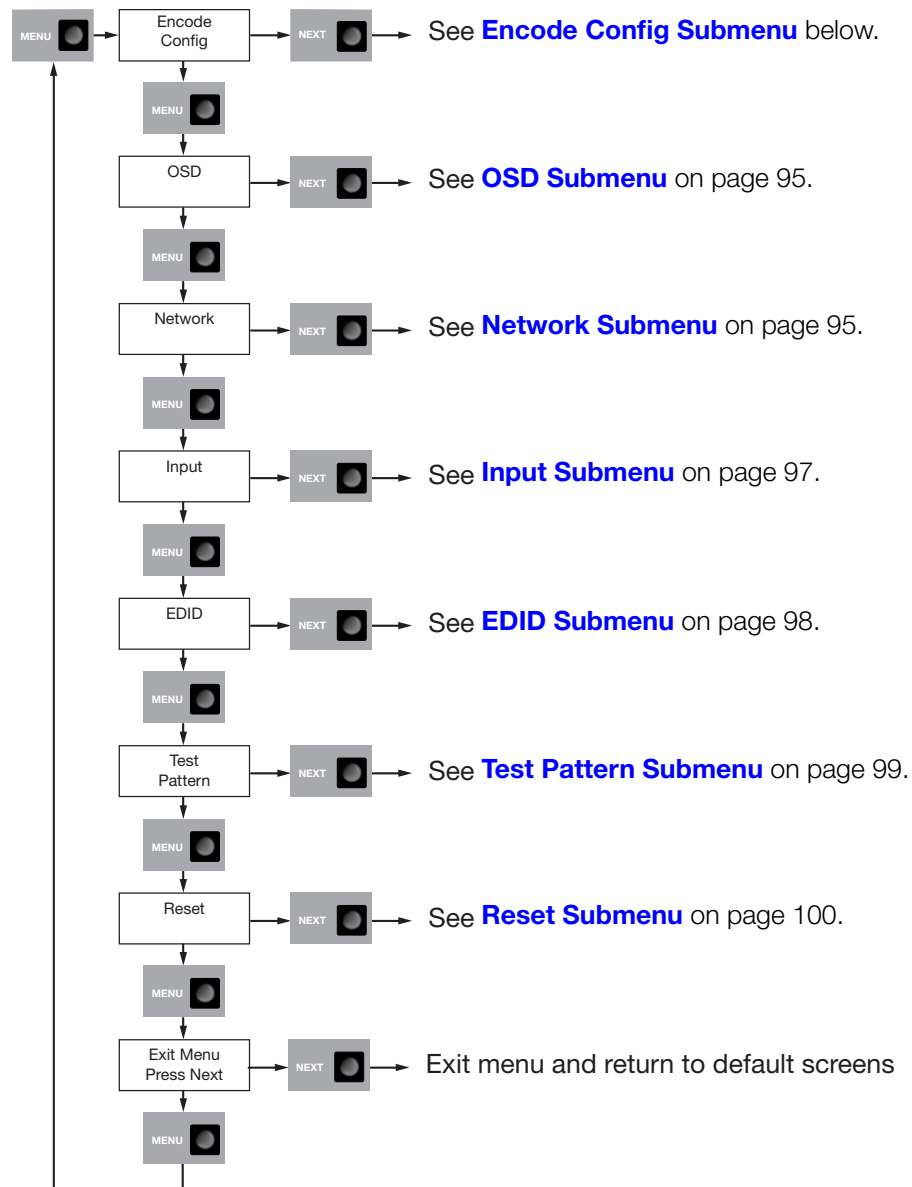

Figure 75. VNE 250 Encoder – Top Level LCD Menu
1. Press the **Menu** button to access **Encode Config**, the first item in the top level menu (see figure 75 on the next page).